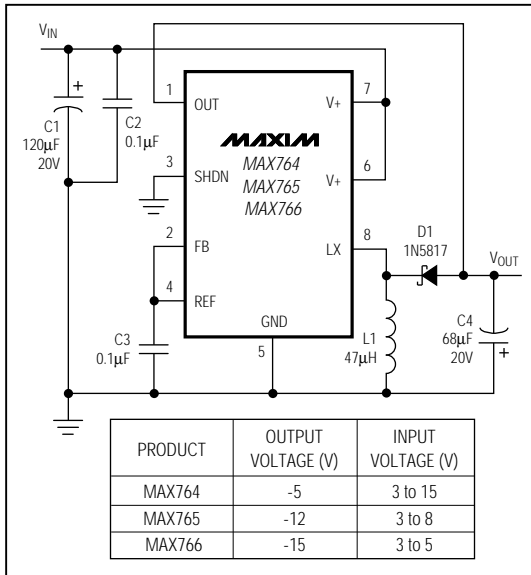

Figure 2. Fixed Output Voltage Operation
**Note 2:** Circuit of Figure 2.
CIRCUIT OF FIGURE 2,  $V_+ = 5V$ ,  $I_{LOAD} = 100mA$ ,  $V_{OUT} = -5V$
CIRCUIT OF FIGURE 2,  $V_+ = 5V$ ,  $V_{OUT} = -5V$
CIRCUIT OF FIGURE 2,  $V_{OUT} = -5V$ ,  $I_{LOAD} = 100mA$
CIRCUIT OF FIGURE 2,  $V_+ = 5V$ ,  $V_{OUT} = -5V$ ,  $I_{LOAD} = 140mA$
CIRCUIT OF FIGURE 2,  $V_+ = 5V$ ,  $V_{OUT} = -5V$ ,  $I_{LOAD} = 80mA$
CIRCUIT OF FIGURE 2,  $V_+ = 5V$ ,  $V_{OUT} = -5V$ ,  $I_{LOAD} = 240mA$
Figures 2 and 3 show the standard application circuits for these devices. In these configurations, the IC is powered from the total differential voltage between the input (V+) and output (VOUT). The principal benefit of this arrangement is that it applies the largest available signal to the gate of the internal P-channel power MOSFET. This increased gate drive lowers switch on-resistance and increases DC-DC converter efficiency.